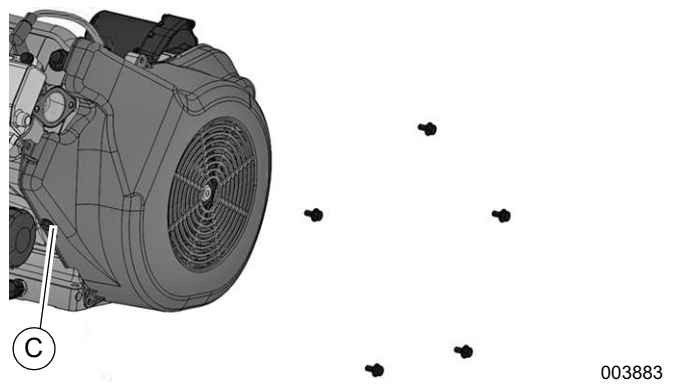

Figure 14-66. Install Blower Housing Screws
2. See Figure 14-66. Tighten screws (C) and remaining blower housing screws to 6.6 ft-lbs (9.0 Nm).